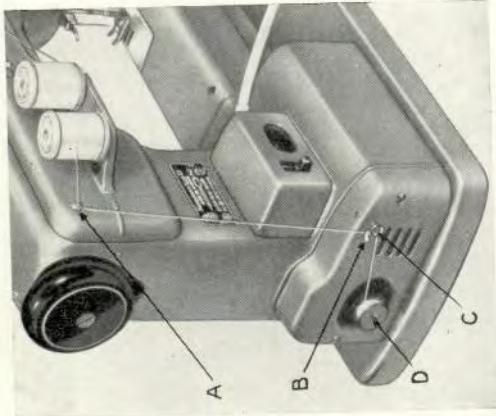

Fig. 6.
Place a spool of thread on the spool pin nearest the hand wheel. Run the thread through the thread guide (A, fig. 6) and down under the guide (B) on the tension device and back between the tension discs (C). Wind the thread two or three times around the bobbin (D), and push the bobbin as far as it will go onto the winder spindle. This automatically engages the sewing mechanism.